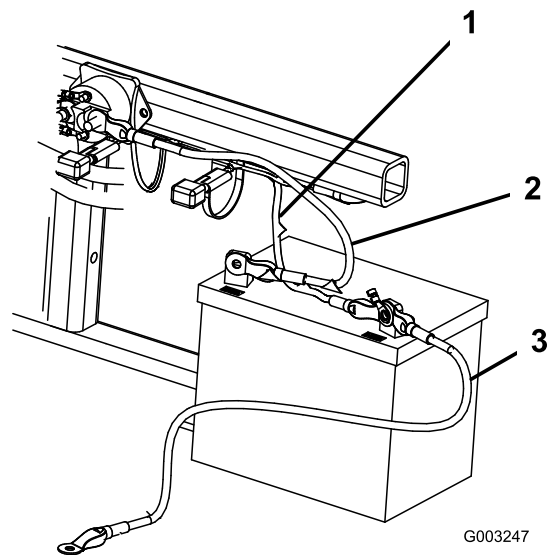
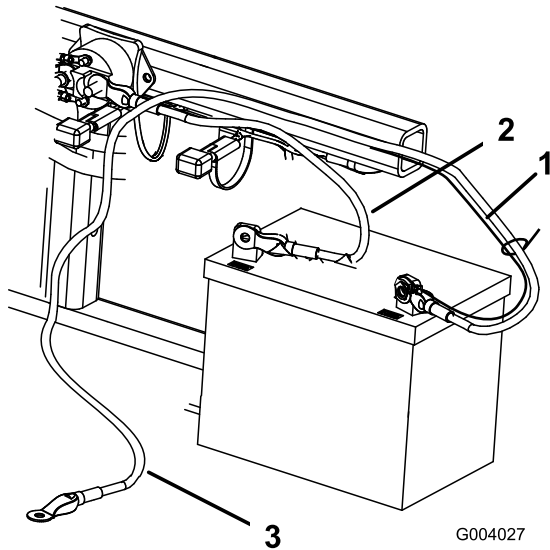

Figure 5
Figure 6
2. Secure the positive cable (red) to the positive (+) terminal with a 1/4-20 x 5/8 inch bolt and locknut (Figure 5 or Figure 6).
4. Secure the small black wire and the negative cable (black) to the negative (-) terminal of the battery with a bolt (1/4 x 5/8 inch) and locknut (1/4 inch) (Figure 5 or Figure 6).